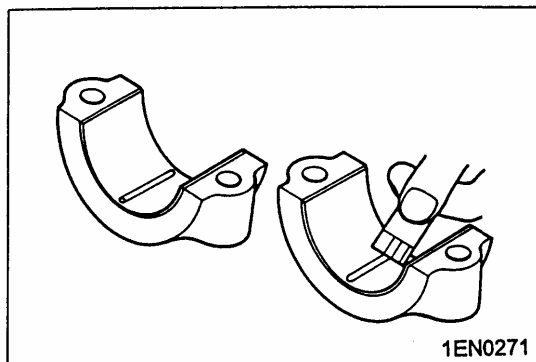

Fig.4-94
- (4) Gently fit the crankshaft bearing cap and tighten the bolts to the specified torque.
- (5) Remove the bolts and gently remove the crankshaft bearing cap.
- (6) Using the scale printed on the plastic gauge bag, measure the plastic gauge's crushed section at its widest point, see Fig.4-94.